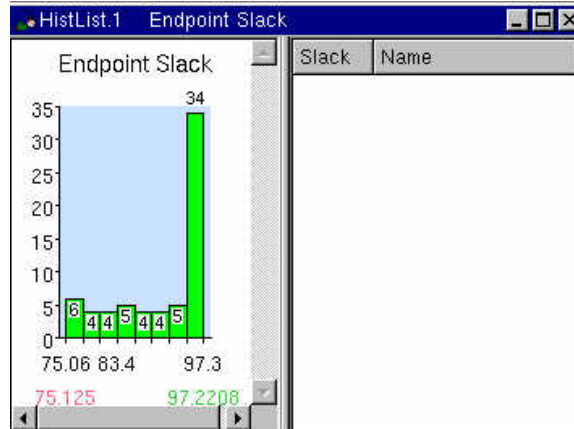

Figure 6-15 The endpoint slack.
2. Keep the default settings and Click on **Ok** on the endpoint slack form. The endpoint slack window appears as shown in figure 6-15.